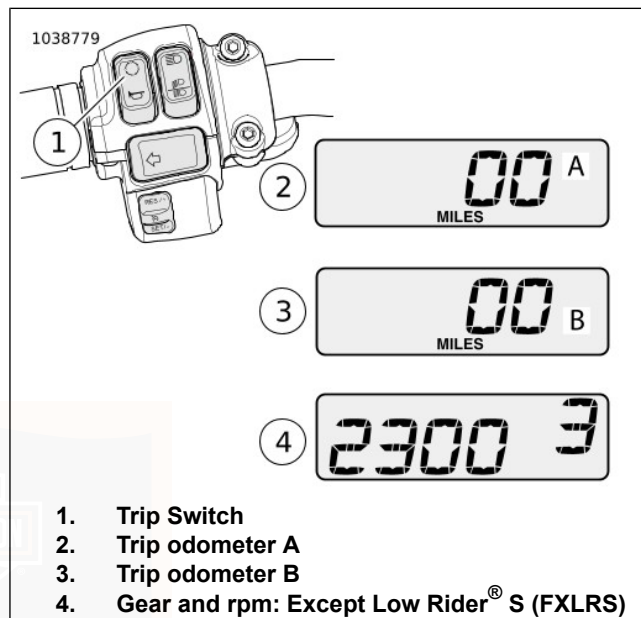

Figure 29. Trip Odometers, Tachometer, and Gear Selection
See Figure 29. To check mileage or to reset trip odometers, the OFF/RUN switch must be in the RUN position. Press and release the trip switch (1) until the desired trip odometer register, A (2) or B (3) is displayed. An A or B on the right of the display window identifies the trip odometer.
See Figure 29. Press and release the trip switch to cycle through the odometer window displays. The odometer shows the engine speed in revolutions per minute (rpm).